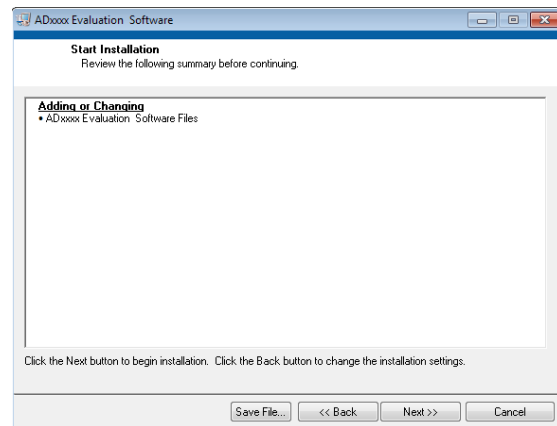

Figure 4. Start Installation Window
6. A summary of the installation appears. Click **Next** to continue (see Figure 4).